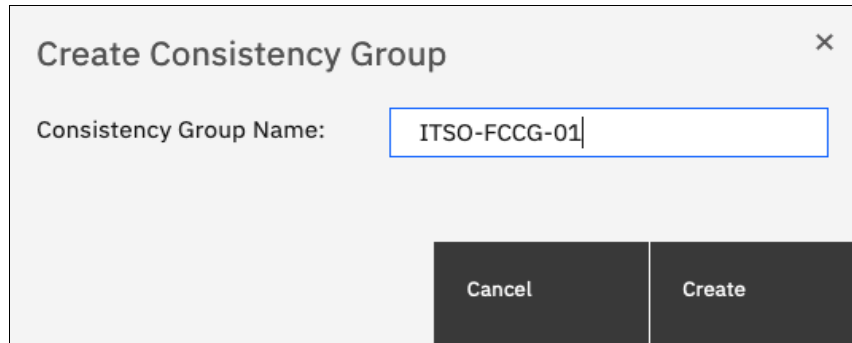

Figure 10-39 Entering the name and ownership group of a new consistency group
2. Enter the FlashCopy consistency group name that you want to use then, click **Create**, as shown in Figure 10-39.